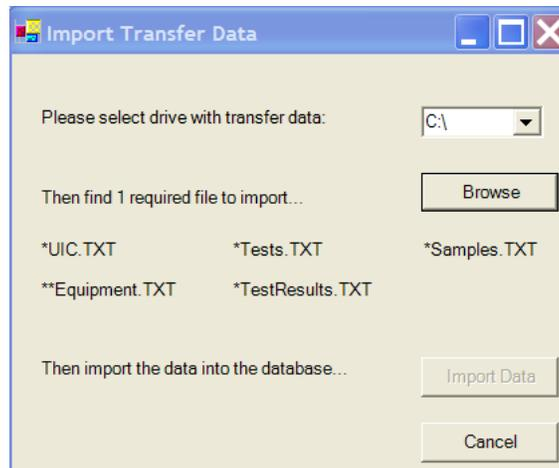

Figure 70. Import Transfer File
(7). Press import data (Figure 70).